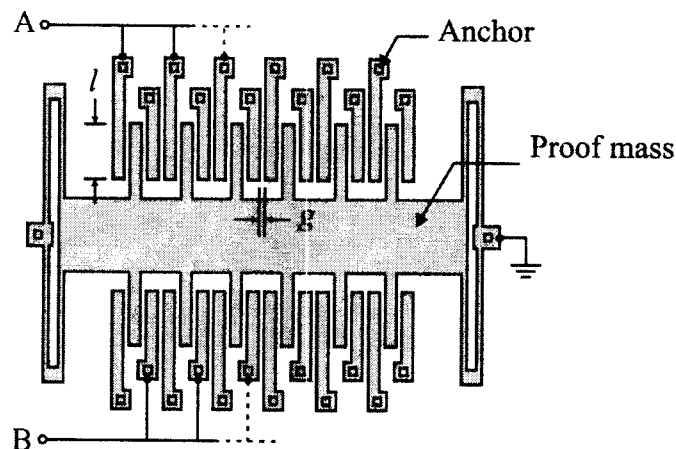

Figure 8.1
8. Figure 8.1 shows a silicon micromachined accelerometer with capacitive readout. The comb electrode arrays are not drawn to scale, and in the actual device there are  $N = 60$  electrode fingers protruding from the mass. The suspension has an in-plane stiffness of 2.4 N/m. Other key parameters are as follows: